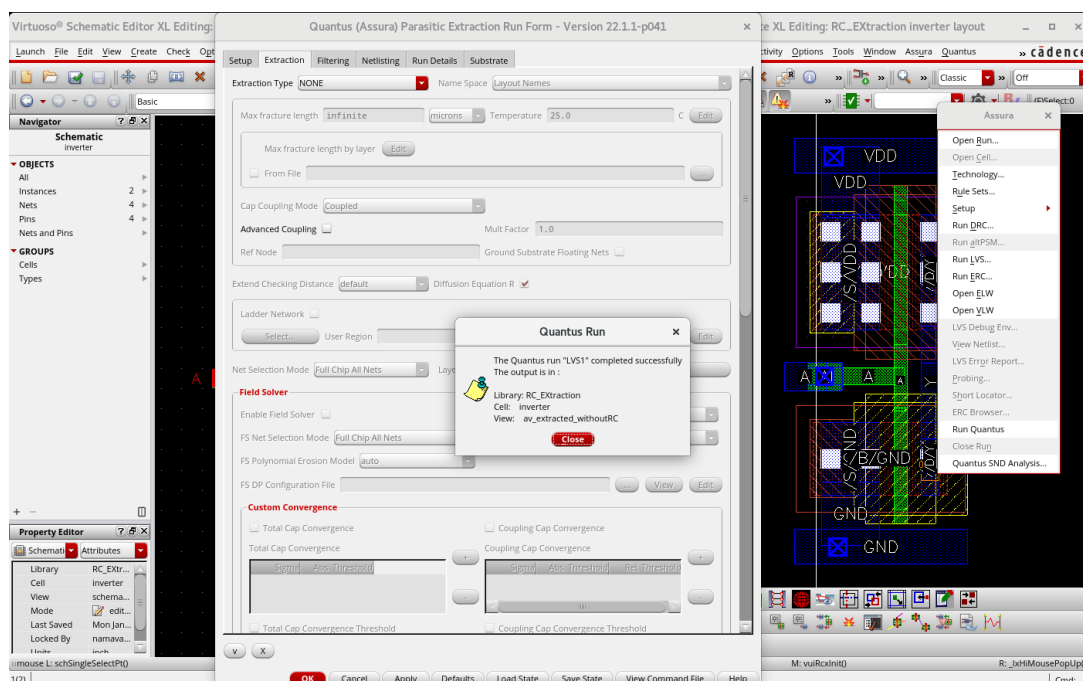

Figure 4: Confirmation of Successful Quantus Extraction for No RC Parasitics.
4. Wait for the process to complete. Upon completion, a confirmation message will appear, as shown in Figure 4.